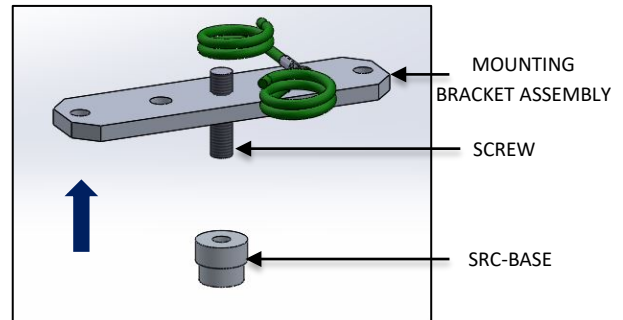

FIG. 13 -SRC-BASE INSTALLATION
- Assemble the SRC BASE to the SCREW (Available in mounting bracket assembly) as shown below in FIG.13.